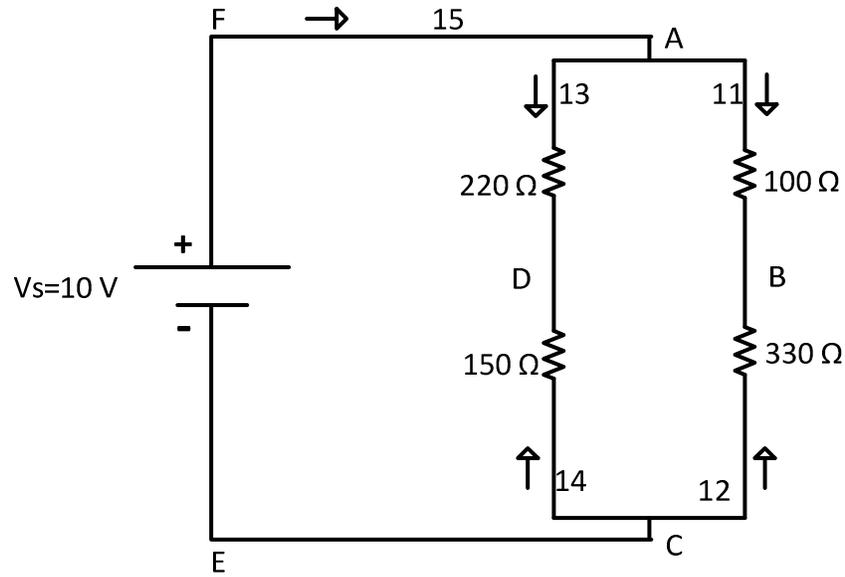

Figure. 1
For the circuit shown in Figure 1, calculate:
- 1- Check the values of the resistors, used in the circuit of Figure.1, using a multimeter. Record the values in Table 1.